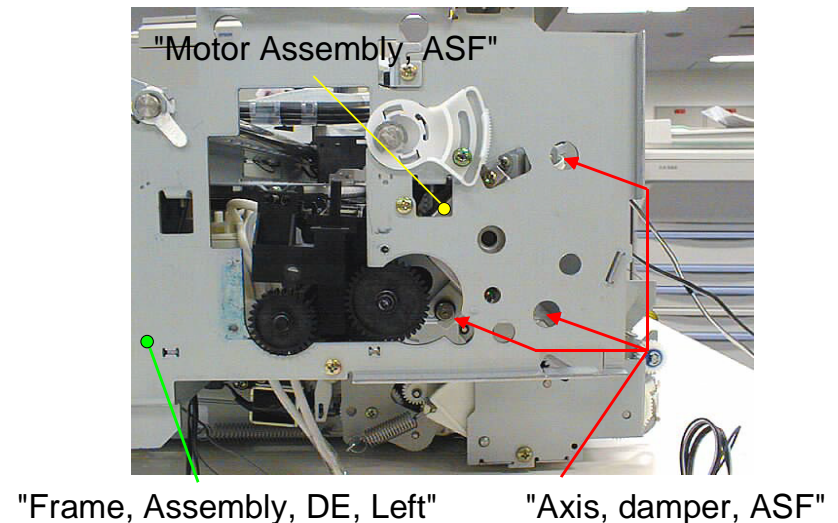

Figure 4-31. Motor Assembly, ASF Removal
6. Remove 3 "Axis, damper, CR"s securing "Motor Assembly, ASF" to "Frame Assembly, Pump, " by inserting the driver to notched part on the mechanism frame, and remove "Motor Assembly, ASF" with "Mounting board, Motor, ASF" from the frame rear side. (Refer to Figure4-31)